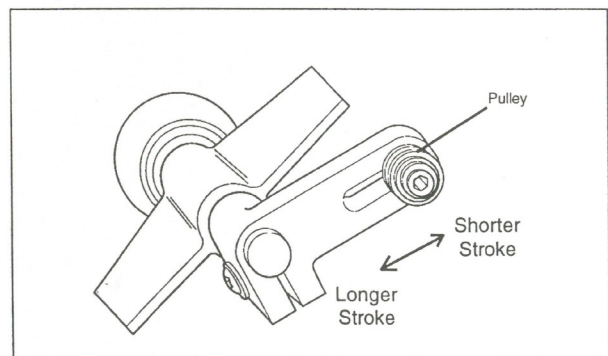

Figure 9 — Adjusting the sanding stroke.
- 2) Move pulley away from center to shorten sanding stroke and move pulley toward center to lengthen sanding stroke (figure 9).